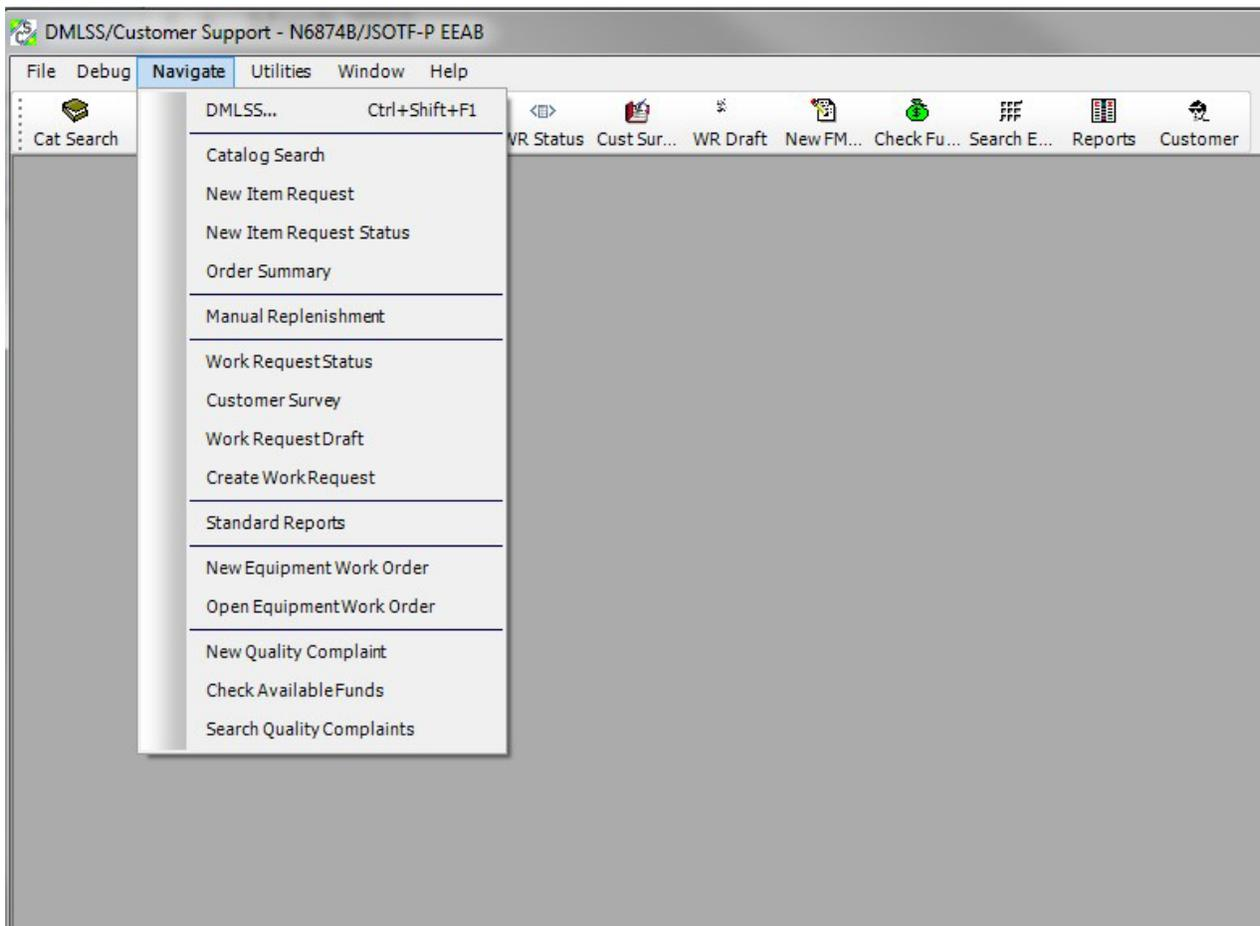

Figure 1. Customer Support, Navigate Menu
1. SCOPE. This chapter contains procedures for the two applications used by customers: Customer Support (CS) and CAIM. This enclosure also covers setting-up a customer forward logistics area and understanding customer transactions. Healthcare Technologies Management (HTM) Sustainment activities are considered CAIM Source of Supply (SOS) by all Military Services.
2. CS OVERVIEW. This module (Figure 1) encompasses supply, equipment, and facility management functions and places the customer request features into a single area.